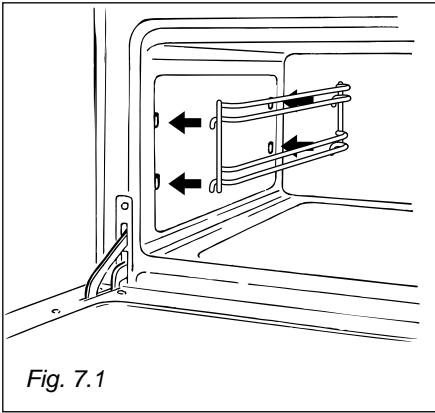

Fig. 7.1
- Hang up the wire racks on the oven walls (Figure 7.1 and 7.2).